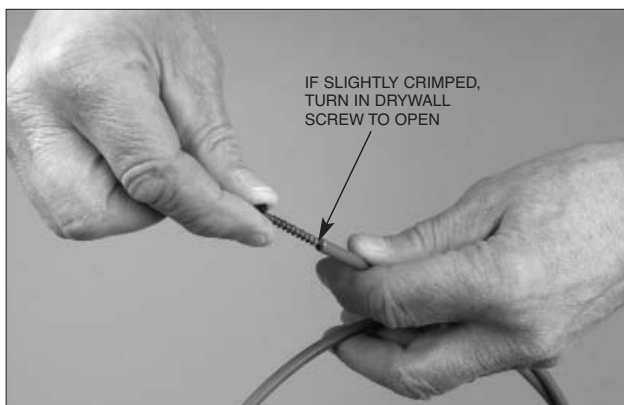

FIGURE 46
1. Layout the flexible conduit and secure it in place. **Note:** If inner liner is crimped, turn a drywall screw into the end to open it. See Figure 46.